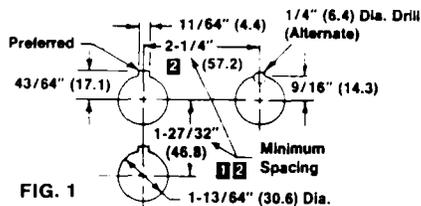

FIG. 1
INSTALLATION (see Figs. 1 and 2)
- Determine the correct number of gaskets to be used per the table in Fig. 1.